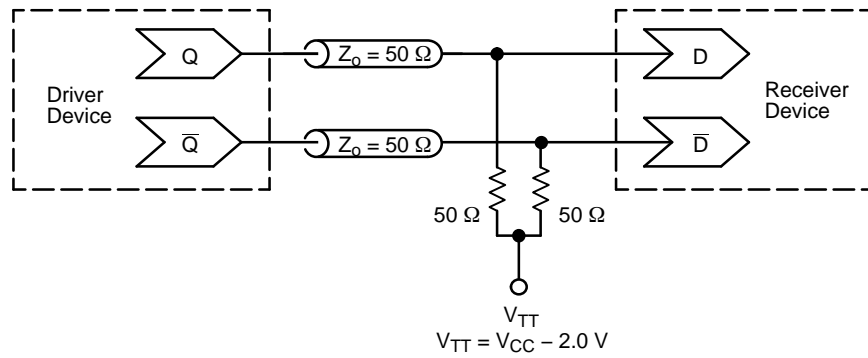
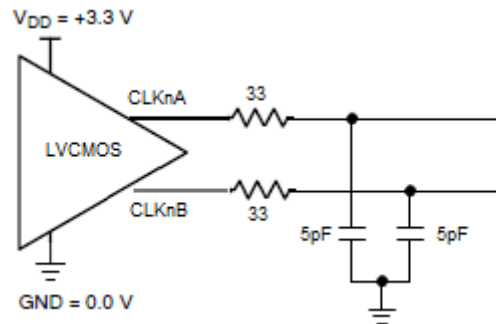

Figure 9. Typical Termination for LVPECL Output Driver and Device Evaluation
Figure 11. Typical LVCMOS Output Test Setup for Evaluation
13. Measured by using a 25 MHz crystal as clock source. All LVPECL outputs are loaded with an external  $R_L = 50 \Omega$  to  $V_{DDO} - 2 \text{ V}$  (Figure 9); LVC MOS outputs loaded with  $R_S = 33 \Omega$ ,  $C_L = 5 \text{ pF}$ , 5" 50  $\Omega$  trace, (Figure 11).